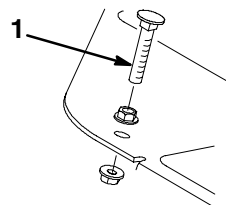

Figure 41
1. Press down on the traction pedal. If the pedal contacts the stop (Fig. 41) before tension is felt on the cable, an adjustment is required:
- A. Loosen flangehead locknuts securing the pedal stop to the floor plate (Fig. 41).